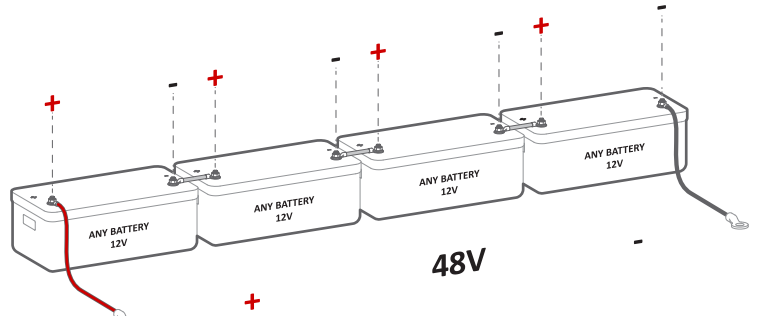

Figure 8b: 12 V DC batteries in series connection
⚠️ MNPower MN 15-12KW-AIO is a **48 V nominal system**. **DO NOT** connect the inverter to any other battery configuration. If you use 12 V batteries, you **MUST NOT** exceed four (4) batteries in series, as shown in Figure 8b. The inverter can work with any battery chemistry as long as it remains within the range of **40 V DC to 64 V DC**.